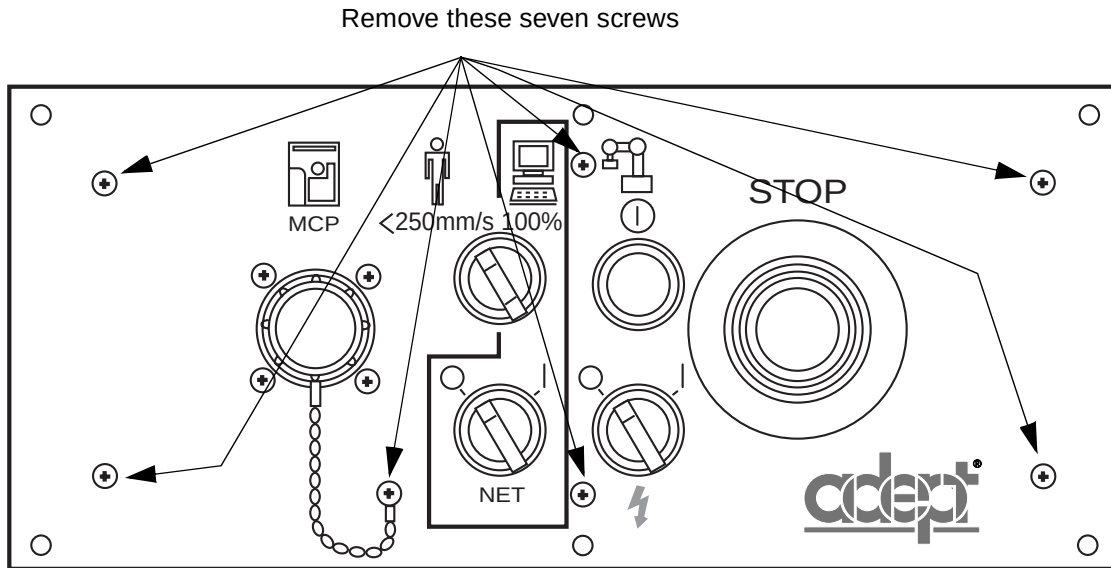

**Figure 10-4. CIP Front Panel Screws**
4. Remove the seven screws from the front of the CIP, including the MCP bypass plug retaining screw (see Figure 10-4).